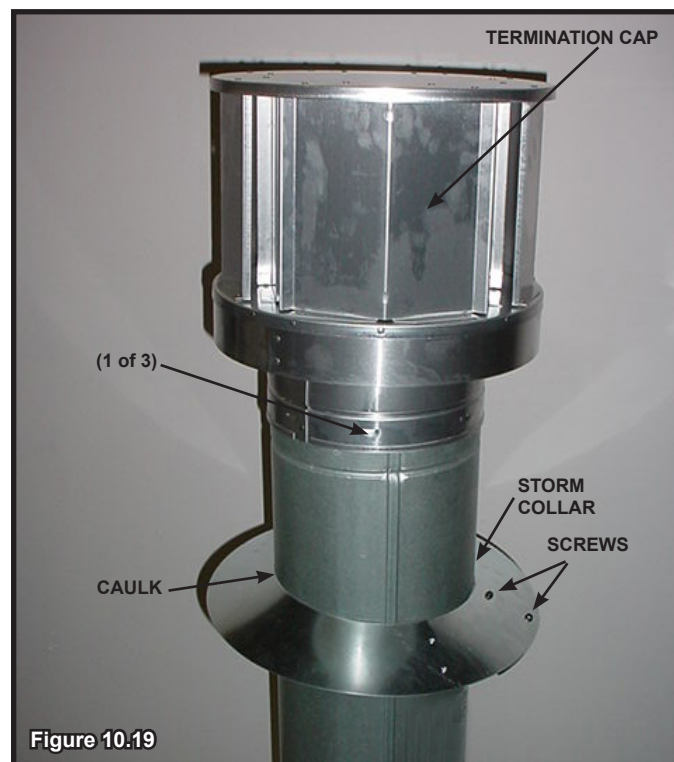

Figure 10.19
- Secure the cap by driving three self-tapping screws (supplied) through the pilot holes in the outer collar of the cap into the outer flue of the pipe (see Figure 10.19).